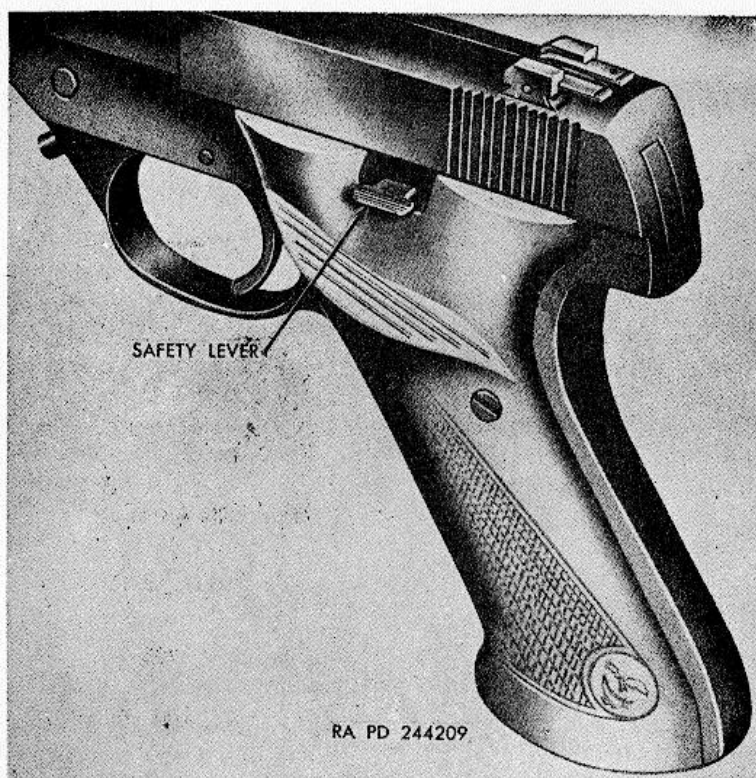
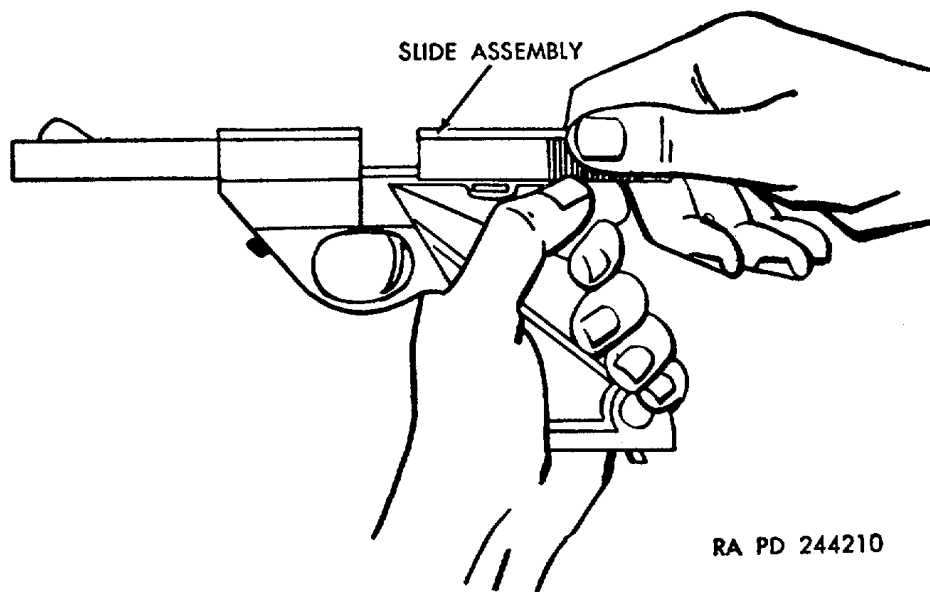

Figure 14. Safety lever in fire position (high standard).
Figure 15. Retracting the slide assembly (high standard).
- (1) The safety lever (fig. 14 )is located at top left side of the frame. It acts on the sear to prevent release of the hammer.
- (2) Move safety lever up to put pistol on SAFE position. Move safety lever downward to put pistol in FIRE position.
- (3) The safety lever in SAFE position locks the slide assembly (fig. 15) in place.
- (1) The slide assembly (fig. 15) is located to the rear of the barrel assembly. It contains the firing pin group, driving spring group, and extractor group.
- (2) Drawing back on the slide assembly cocks the hammer.
- (3) A cartridge will be stripped from the magazine assembly and chambered when the slide assembly is allowed to go into battery under the tension of the driving spring.